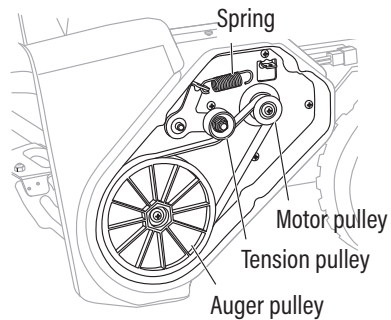

Fig. 2
2. Remove the spring from the hook to release the belt tension (Fig. 2).